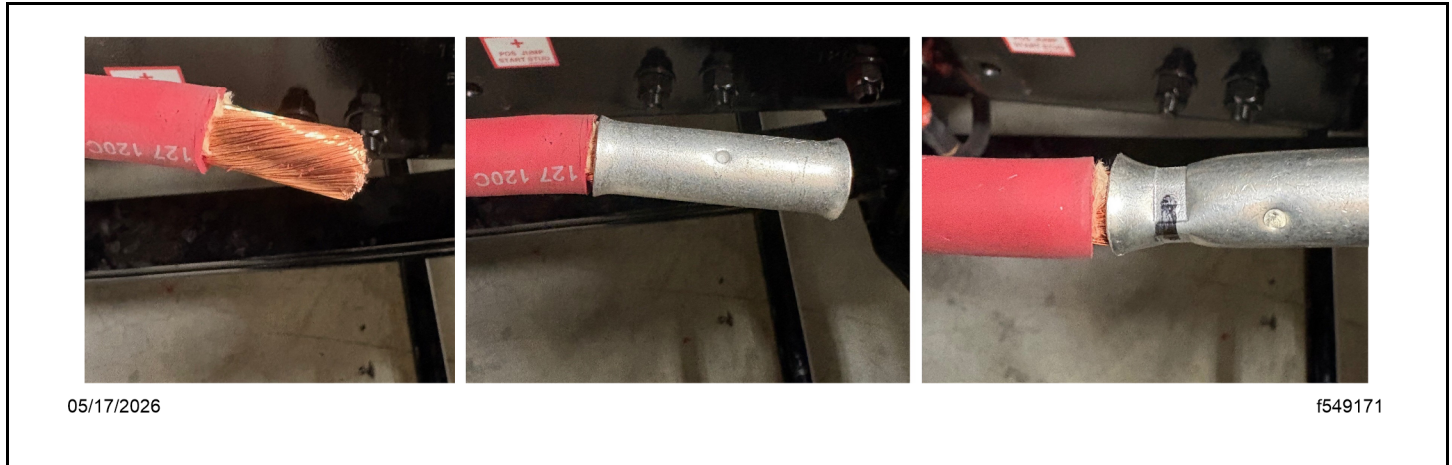

Fig 7, Installing and Crimping the Terminal
21. Crimp the butt connector terminal (PHM 8 2980) on the cable routed to the cab. See Fig. Fig. 7.